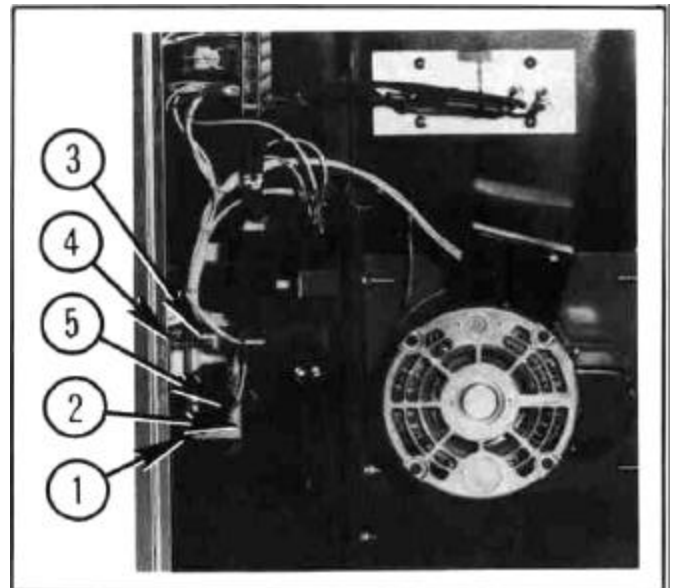

Figure 4-6
4. Remove two bracket retaining screws (Fig. 4-6 No. 1).
1. Insert long end of door activated plunger through hole in left front side of control compartment (Fig. 4-6 No. 3).
2. Replace spring (Fig. 4-6 No. 4) and switches (Fig. 4-6 No. 5) in bracket and secure switch assembly with 2 screws.